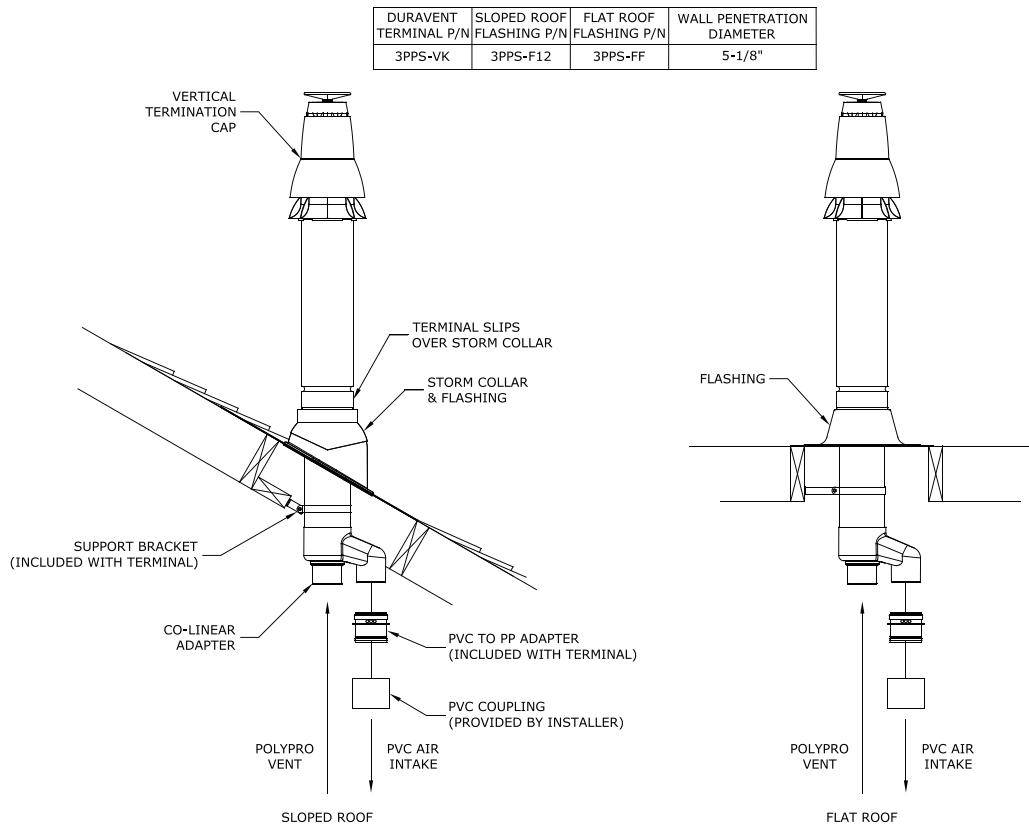

Figure 7.40: Installation of DuraVent PolyPro Concentric Terminal Through Roof
7. Vertical Installations using PolyPro Vertical Concentric Termination Kit #3PPS-VK (Figure 7.40):
- Use a roof flashing and storm collar to prevent moisture from entering the building. See Figure 7.40 for the model number of the flashing to be used depending on the type of roof. Seal the roof flashing to the roof using generally accepted practice for the type of roof on the installation.